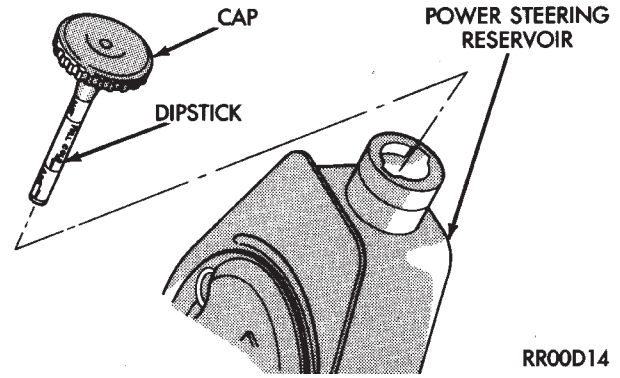

Fig. 4 Power Steering Reservoir Dipstick—2.5L Engine
- (1) Position vehicle on a level surface with engine at normal running temperature.
- (2) Turn OFF engine and remove ignition key.
- (3) Using a wiping cloth, clean oil and dirt residue from around power steering reservoir cap.
- (4) Remove reservoir cap or dipstick and wipe off fluid.
- (5) Install cap or dipstick.
- (6) Remove cap or dipstick. Holding handle or cap above tip of dipstick, read fluid level (Fig. 4, 5, or 6). Add fluid if reading is below cold level mark on dipstick.